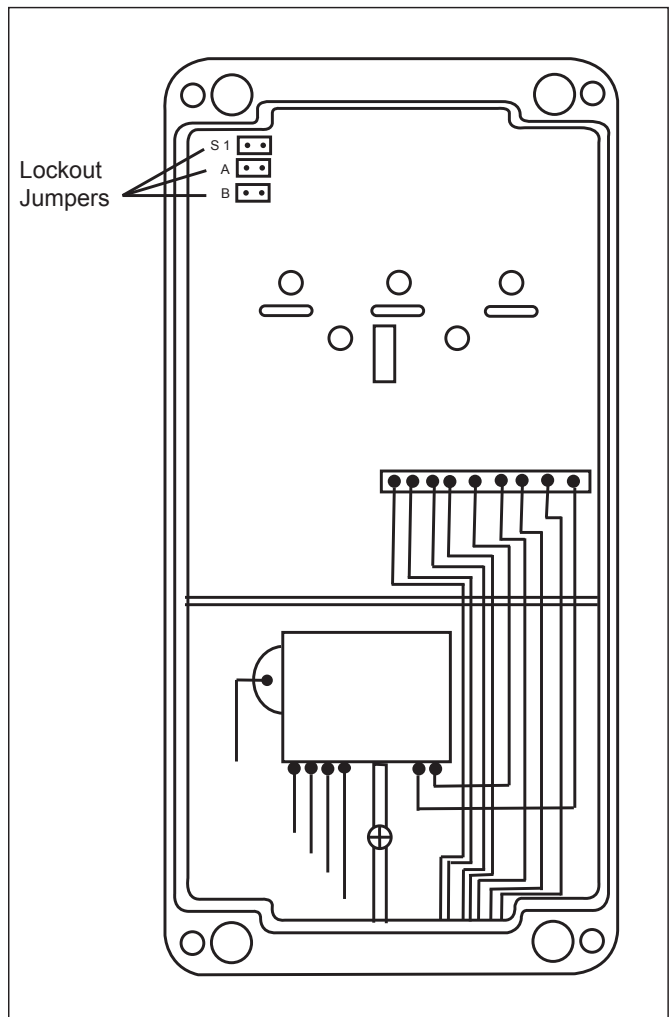

Figure 11. Safety Lockout Jumpers
2. Take the upper cover plate off the control box by removing the three (3) screws that secure it.
3. Locate the jumpers at the top left of the circuit board. See Figure 11.